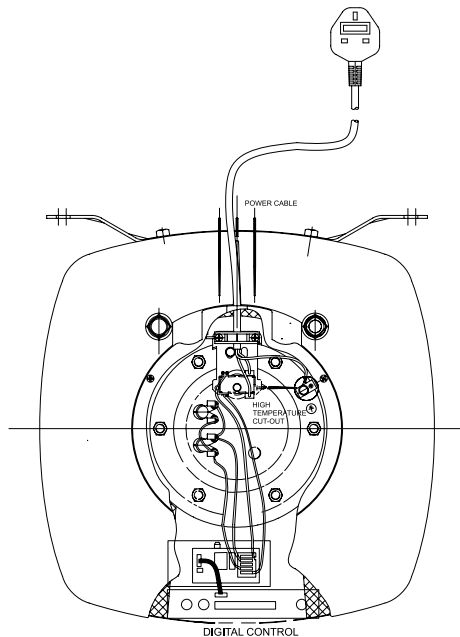

Fig 3
5.1. The sheathed heating element - A 1.6 or 2kW 230v 50Hz sheathed heating element is pre fitted to the cylinder at the factory. It should be wired in accordance with the instructions given in Fig 3.